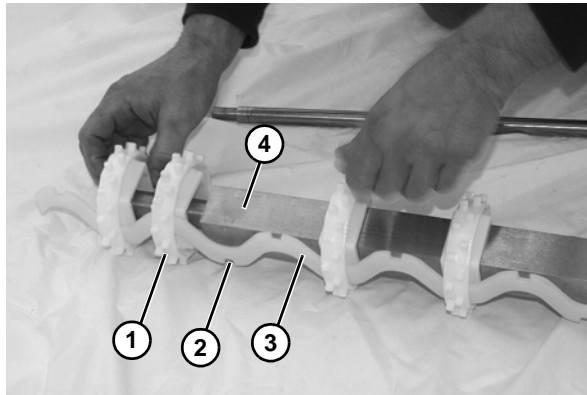

Figure 70
1. Assemble sprockets (Figure 70, item 1) to the slots (Figure 70, item 2) of alignment bar (Figure 70, item 3), and install assembly onto drive spindle (Figure 70, item 4).